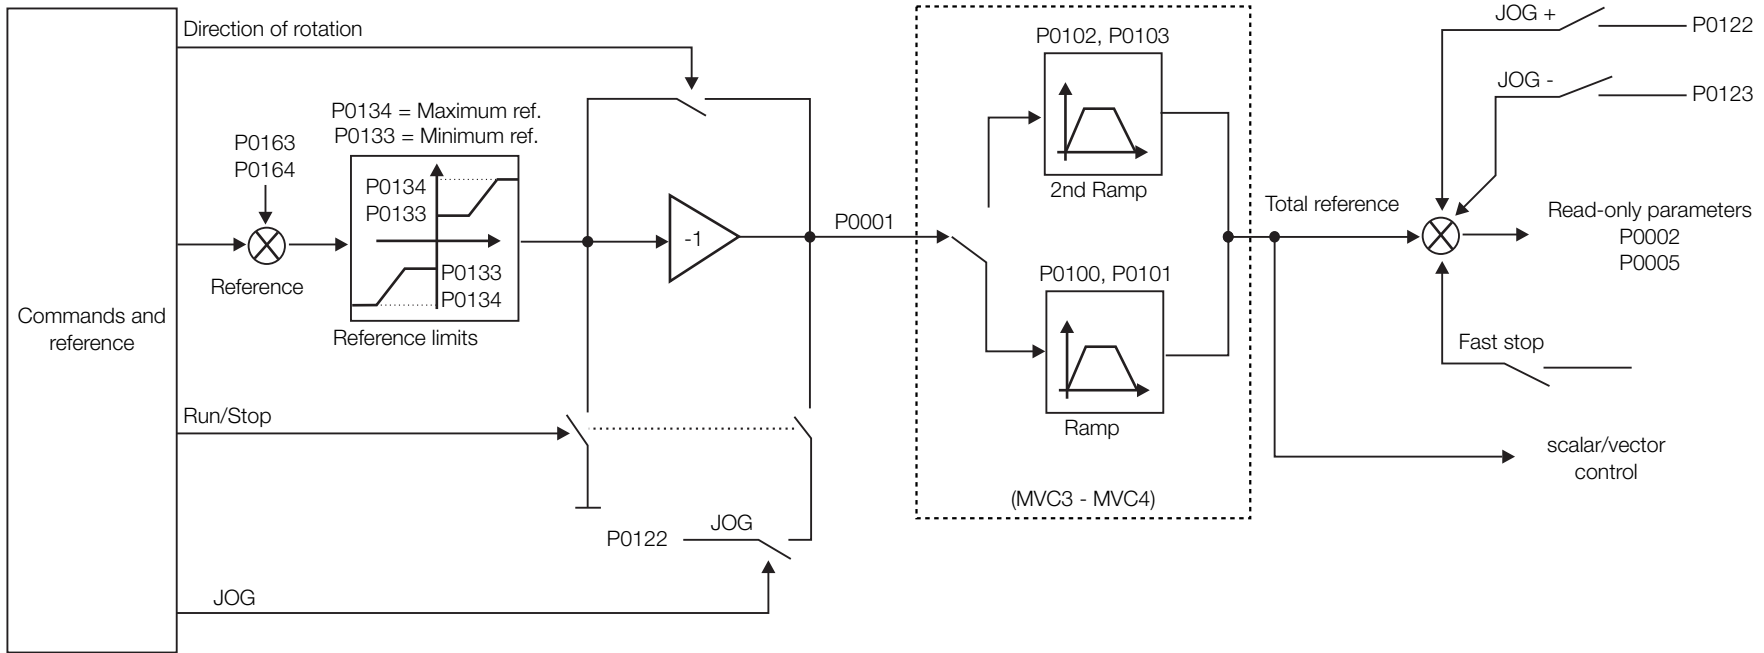

Figure 5.24: Speed reference block diagram
- See Figure 5.24 on page 5-40.
- Refer to Figure 5.24 on page 5-40.